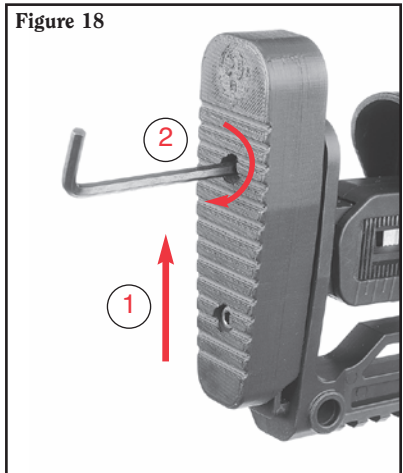

Figure 18
3. Raise the butt pad to the desired height and tighten both screws. (See Figure 18.)